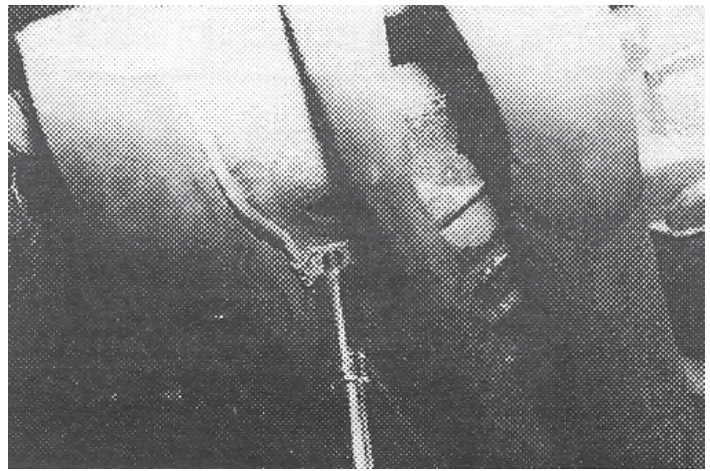

Fig. 9
9. Early model "S" vehicles have a crossmember located directly rear of engine, **Fig. 9**. This crossmember must be removed. Remove brake line fasteners attached to crossmember. Remove crossmember fasteners and crossmember. Remove front drive shaft. **Do not allow slider yoke to disengage from shaft.**